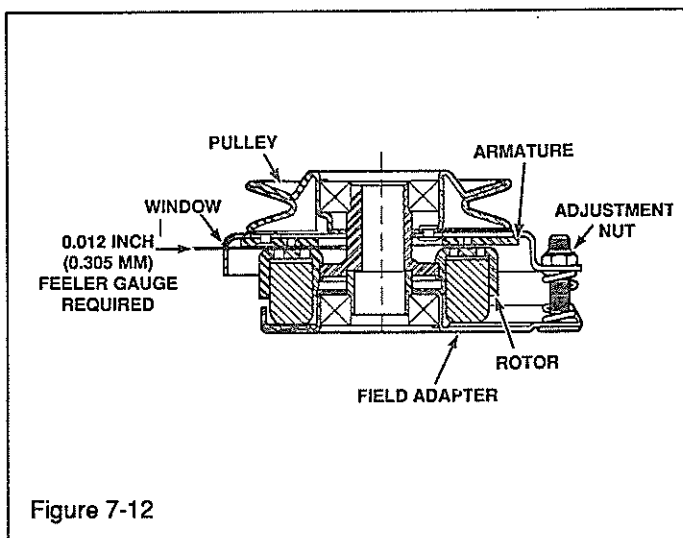

Figure 7-12
7. Insert a 0.012 inch (0.305 mm) feeler gauge into one of the 3 windows (Figure 7-11). Position gauge between rotor and armature. See Figure 7-12.